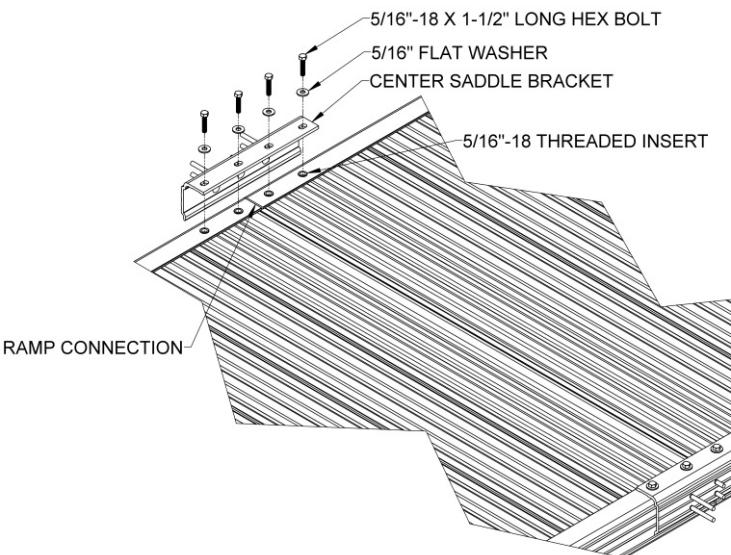

FIG. 3.1
3.1.2. Butt the sections together end-to-end and ensure there is no gap, then position the two center saddle brackets, included in the HARRRUC (UNIVERSAL CONNECTOR – RAMP TO RAMP), over the threaded inserts at the end of each ramp section (FIG. 3.1).